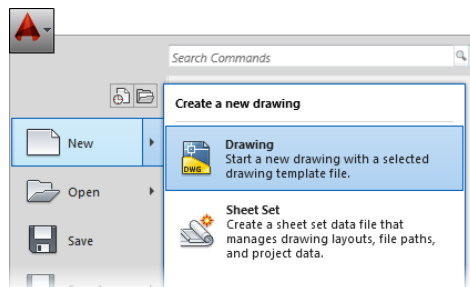

FIGURE 1.23: Opening a new drawing from the Application menu
1. To open a new AutoCAD file from the Application menu, choose New > Drawing, as shown in Figure 1.23.